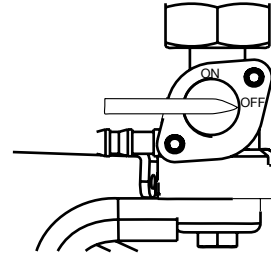
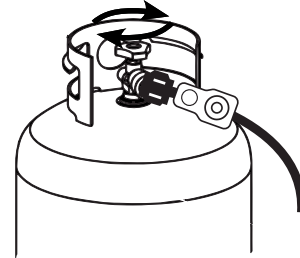

Figure 12 - Fuel Shut Off - OFF
Figure 13 - Propane Tank Valve - CLOSED
3. If you are operating on gas move the fuel shut off valve to **OFF** (see Figure 12). If you are operating on propane shut off the tank valve (see Figure 13). Wait for engine to shut off due to lack of fuel.